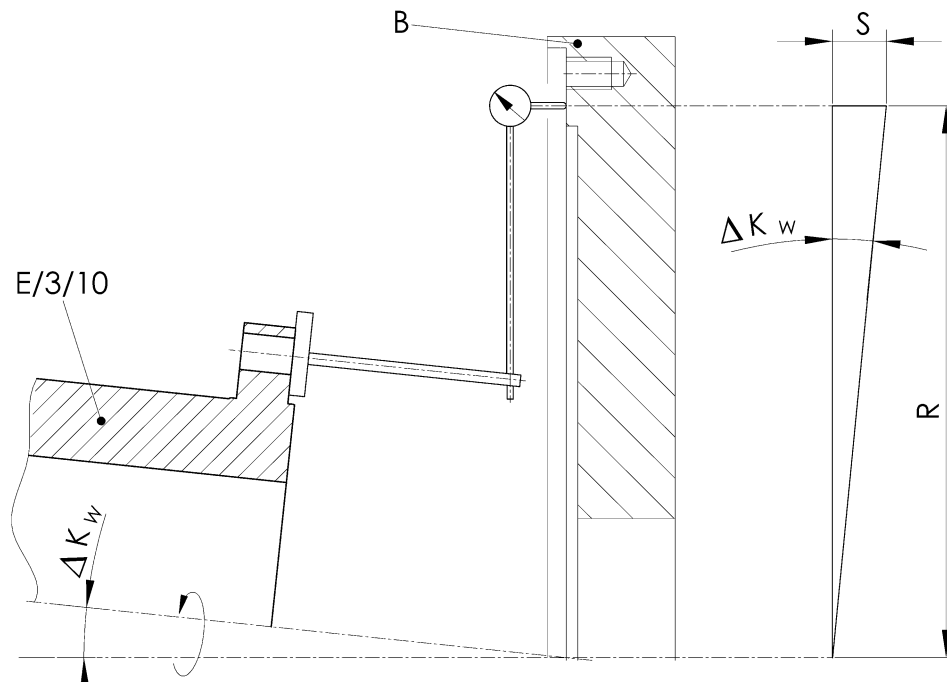

Fig. 5-3 Angular misalignment
- Measure the angular misalignment with a dial gauge (see Fig. 5-3)
- Turn the flange/hub/adapter (E/3/10) with dial gauge and flywheel (B) slowly by 360°.